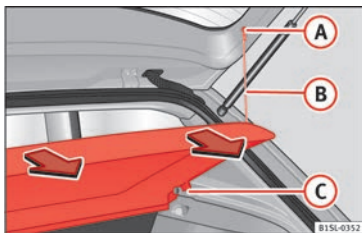

Fig. 137 In the luggage compartment: removing and installing the rear shelf
- Unhook the loops »» Fig. 137 (B) from housings (A).
- Extract the shelf from its housing (C) upwards and then pull it out.